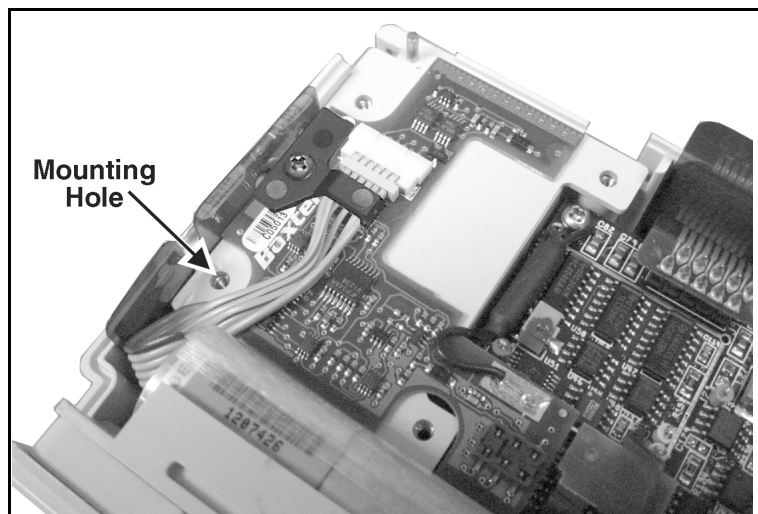

Figure 6-31. Mounting Hole Location
1. Refer to Figure 6-31. Check that the Motor Cable is completely clear of the Battery Wall hole located just above and to the left of the Mechanism Assembly.